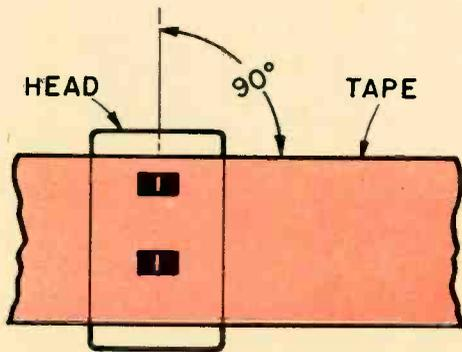
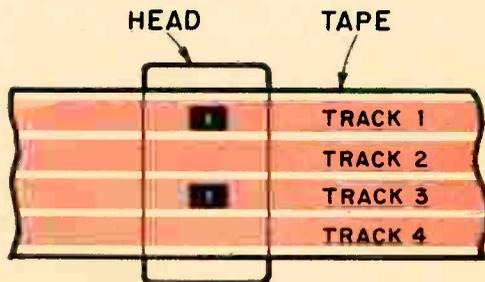

Fig. 4—The azimuth adjustment of the head is correct when the angle between the gap in the head and the edge of the tape is exactly  $90^\circ$ .
Fig. 5—To prevent crosstalk between tracks, head height must be correct. For example, if head is too low, tracks 1 and 2 will pass over upper gap.
Head alignment establishes the proper position of the head with respect to the recording tape. There are four head-tape relationships: they are azimuth angle (Fig. 4), track registration (Fig. 5) and contact angle and tilt (Fig. 6 left and right). Azimuth angle (Fig. 4) is the angle between the edge of the tape and the head gaps; it must be  $90^\circ$ . Track registration (Fig. 5), refers to the height of the head gaps with respect to the tape. If height of the head is incorrect, the gap will pick up information from two tracks instead of one. Tilt (Fig. 6, right, is an exaggeration of this condition for purpose of illustration) refers to the angle between the face of the head, and surface of the tape. The angle must be  $0^\circ$  to insure equal head-to-tape contact across the tape. Contact angle (Fig. 6, left) is the tangent angle at which the tape contact the head, it must be  $90^\circ$ .
**Visual checks.** Sighting through the tape guides and along the tape path, check that the guides and the heads' faces are perpendicular to the plate of the recorder. Correct any tilt by turning the appropriate adjustment screws. Thread a reel of tape on the machine. Keeping the tape taut across the heads, check the contact angle by viewing the heads from above and noting the angle between the tape and the face of the head at the center of the gap. Still keeping the tape taut, view the heads from the front to check the height of the heads. (Figs. 4 & 5). Adjust the playback and record head height so that the top edge of the tape just covers the upper-track pole pieces. Recheck head tilt; you may have to repeat the tilt and height adjustments a few times to get them both correct.